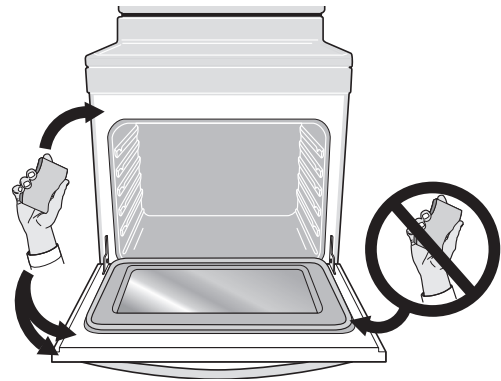

Fig. 42 Areas to clean and areas to avoid (gasket)
- Do not spray oven cleaners or oven protective coatings in or around any part of the oven interior. Clean any soil from the oven frame, the door liner outside the oven door gasket, and the small area at the front center of the oven bottom (Figure 42). These areas heat sufficiently to burn soil on. Clean using soap and water prior to starting Self Clean.